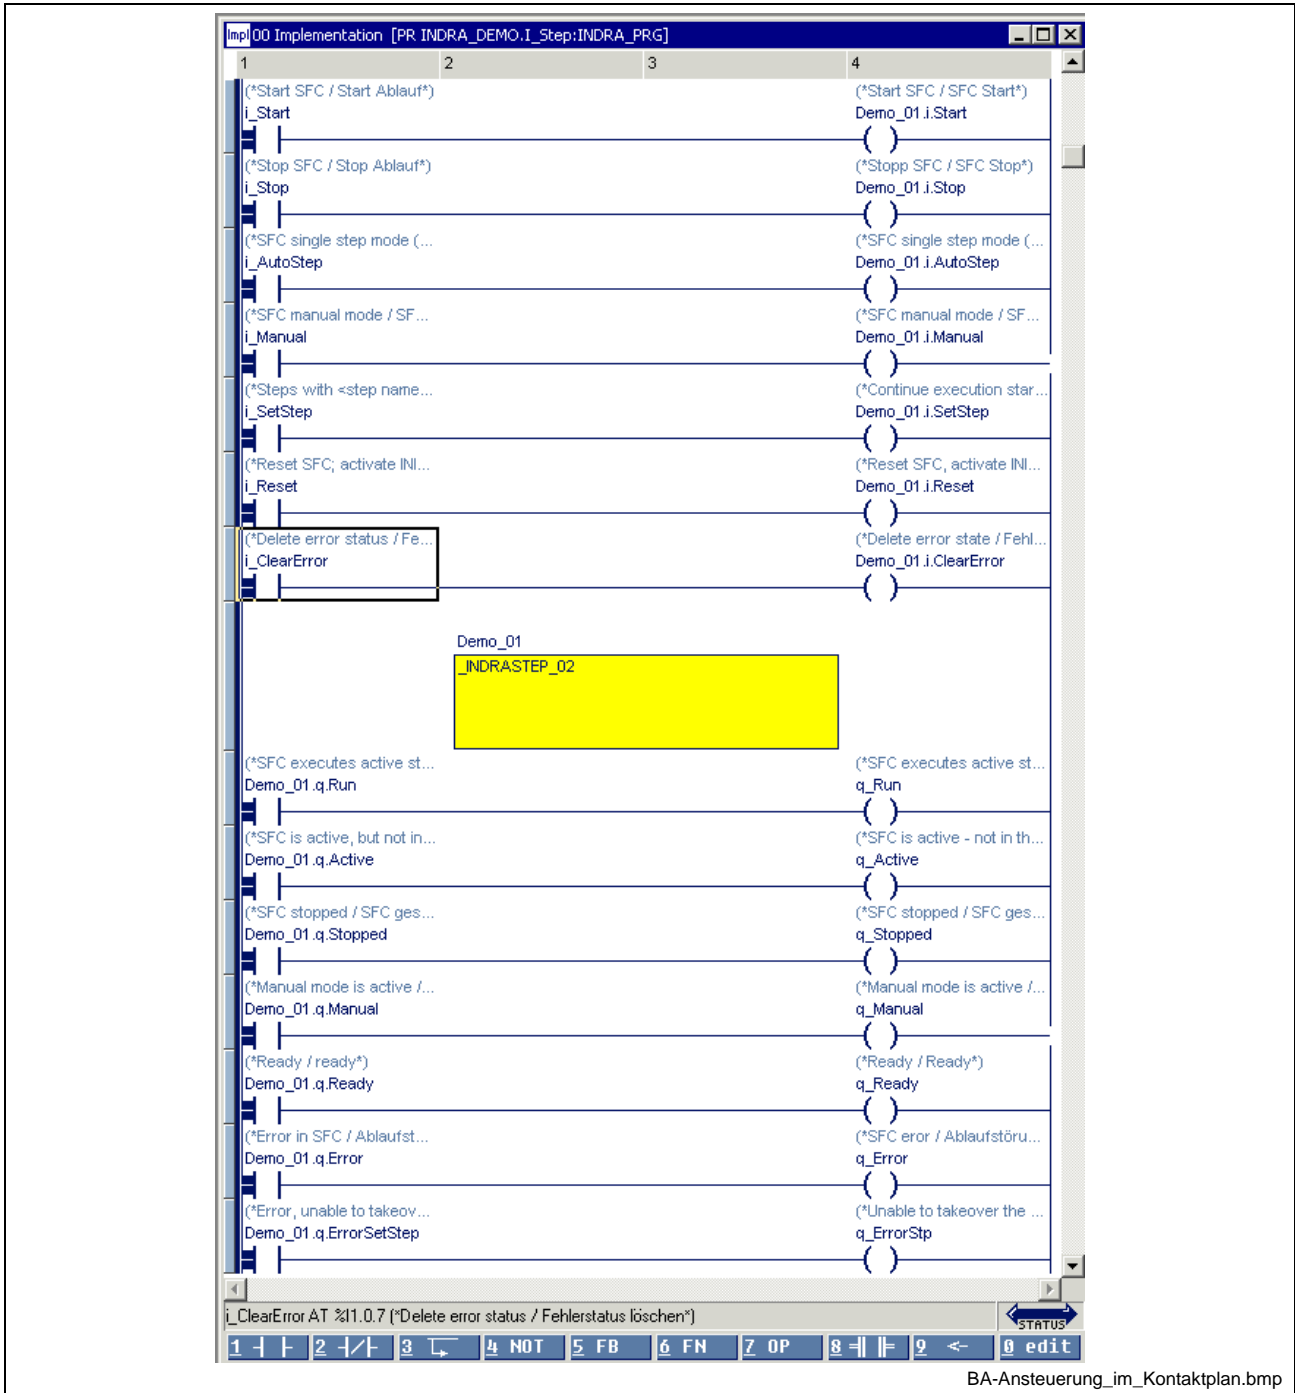

Fig. 4-10: Mode control in the ladder diagram
- via the ladder diagram, implementation <Shift>+<F2> of the program, double-click or <Ctrl>+<Enter> on the yellow box of the call (Fig. 4-10);